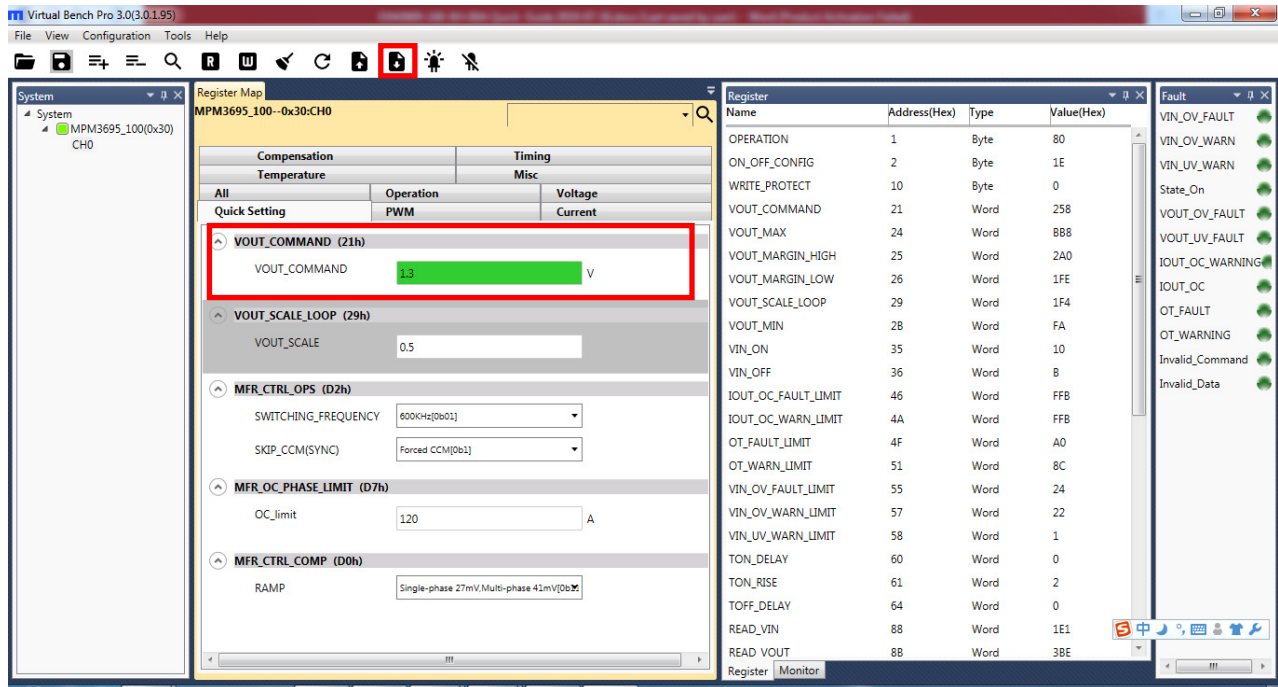

Figure 8: Writing to the MTP
8. To save the values into the MTP, click “Write to MTP” (denoted with a downward arrow) and wait until the writing action is completed (see Figure 8).